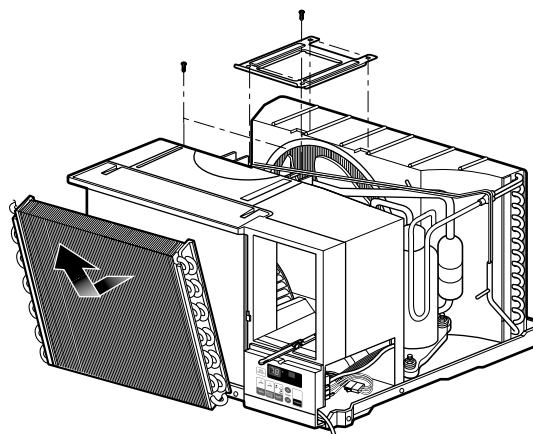

Figure 17
7. Move the evaporator forward and pulling it upward slightly. (See Figure 17)